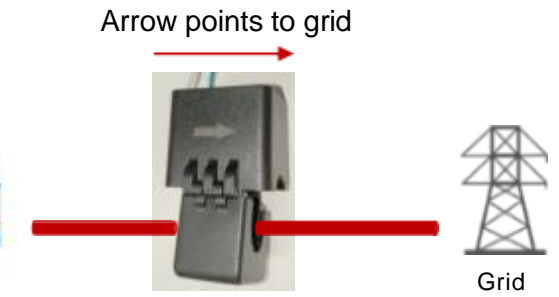

Figure 8
Step 8: Pass the magnetic ring of the current transformer through the live wire of the grid. Note that the arrow points to grid (Figure 8).